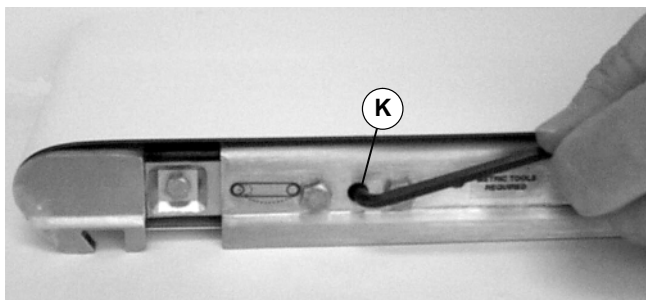

Figure 2
1. On idler end of the conveyor, insert a 5 mm hex key wrench to engage pinion gear (K of Figure 2).